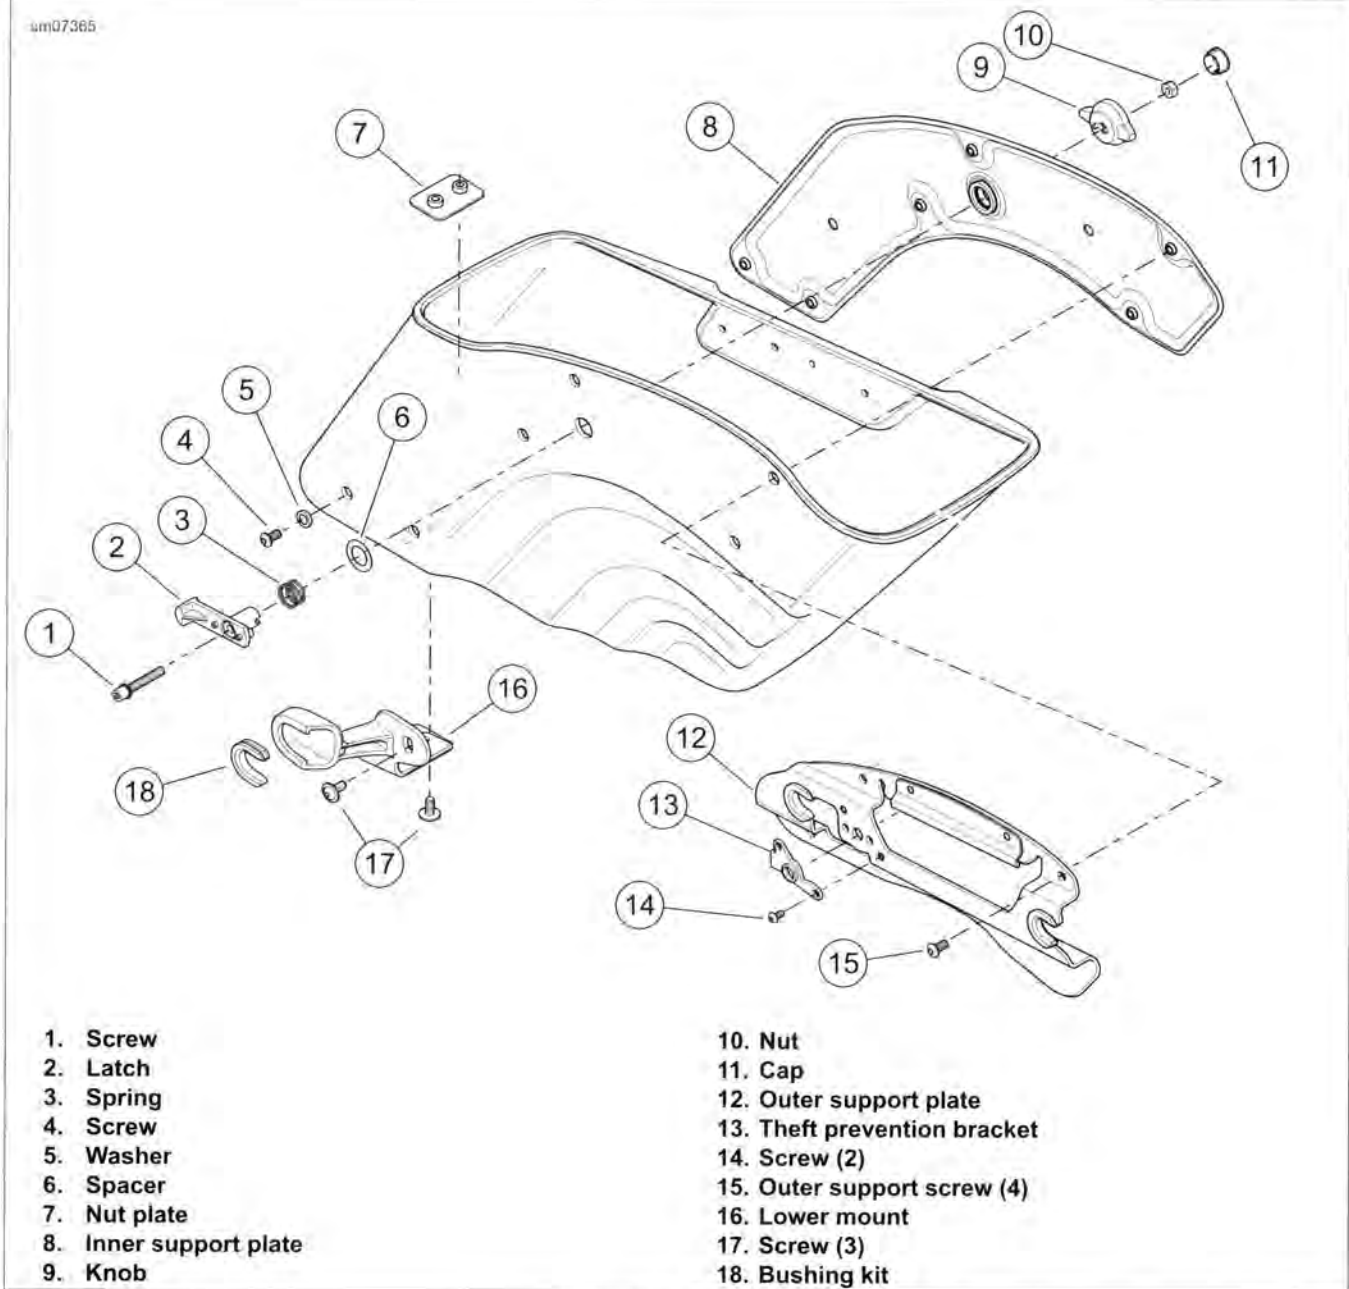

Figure 2-159. Saddlebag Lower: FLD
4. See Figure 2-159. Remove screws (17). Remove lower mount (16).
5. Remove outer support screws (15) and outer support plate (12).
6. Remove cap (11).
7. Hold nut (10). Remove screw (1). Remove latch (2), spring (3), spacer (6) and knob (9).
8. Remove screw (4) and washer (5). Remove inner support plate (8).
9. Remove screws (14) and theft prevention bracket (13) if necessary.
1. See Figure 2-159. Install theft prevention bracket (13). Tighten to 24-36 **in-lbs** (2.7-4.1 Nm).
2. Hold inner support in place and loosely install screw (4) and washer (5). Loosely install a second outer support screw (15) to help support inner support.
3. Install latch components (1, 2, 3, 6, 9, 10). Tighten to 96-120 **in-lbs** (10.8-13.6 Nm). Install cap (11).
4. Install outer support plate (12). Tighten screws (4, 15) to 96-120 **in-lbs** (10.8-13.6 Nm).
5. Install lower mount (16). Tighten to 96-120 **in-lbs** (10.8-13.6 Nm).